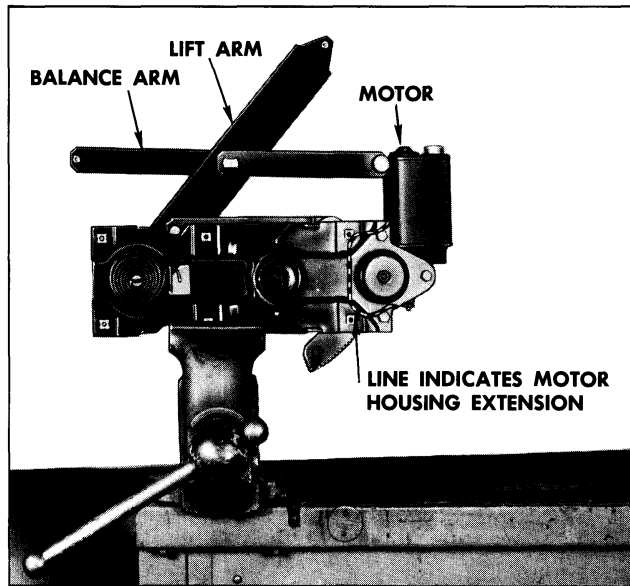

Fig. 12-40 Regulator and Electric Motor Assembly
2. Drill a 1/4" hole through back plate and sector gear, at a location dependent upon position of lift arm. **DO NOT** drill into motor housing (Fig. 12-40).